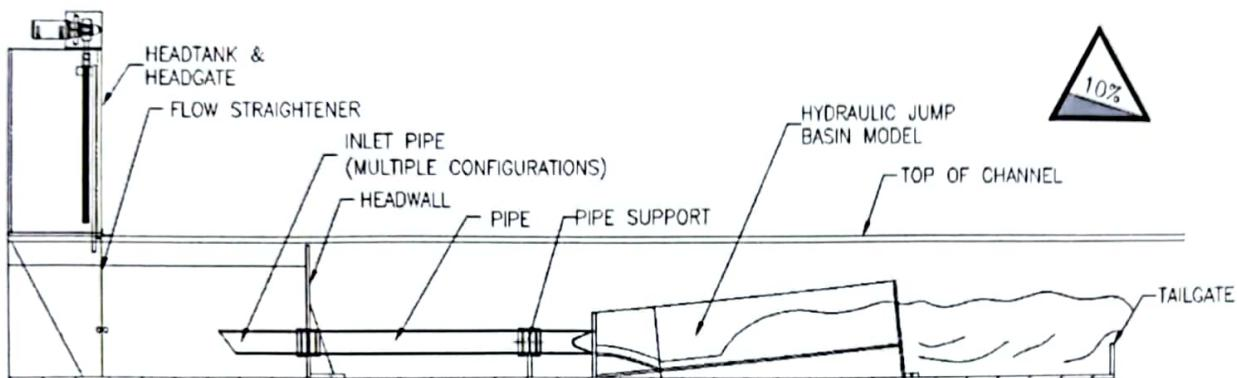

Figure 1 Installation
1. Initial settings (Fig. 1):
2. Mount the head wall to the channel floor midway along the upstream channel segment using two (2) #10-24UNC-2A x 0.625" long Round Head Machine Screws (RHMS).
3. Install the hydraulic jump basin model, pipe segment and inlet models as shown. Mount the hydraulic jump basin model to the channel floor with two (2) #10-24UNC-2A x 0.625" long Round Head Machine Screws (RHMS). Engage all o-rings at pipe connections. Any of the inlet models may be used.